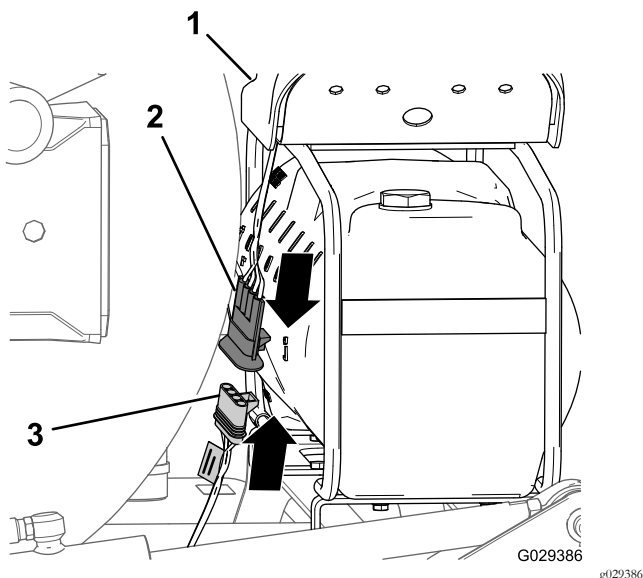

Figure 172
2. Insert the 4-pin connector into the 4-socket connector (Figure 172).
1. At the end of the 236 cm (93 inches) branch of the wire harness, align the 4-socket connector of the wire harness for the finishing kit with the 4-pin connector of the wire harness from the compressor (Figure 172).